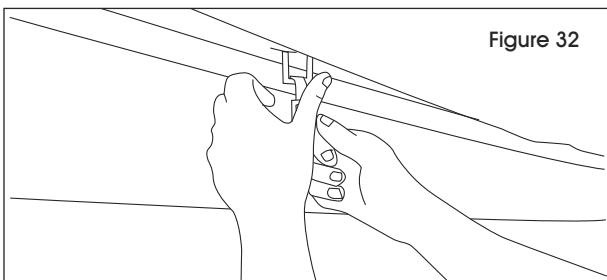

Figure 32
3. Unfasten all alligator straps except the two at each corner (one at each side of corner). (See Figure 32)